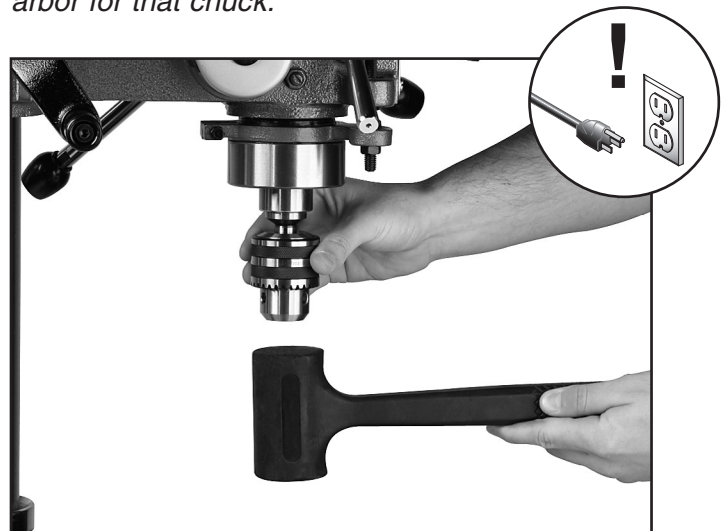

Figure 11. Seating the JT6 drill chuck.
4. Securely seat the chuck in place by giving it a single hard tap with a rubber mallet, as shown in **Figure 11**.